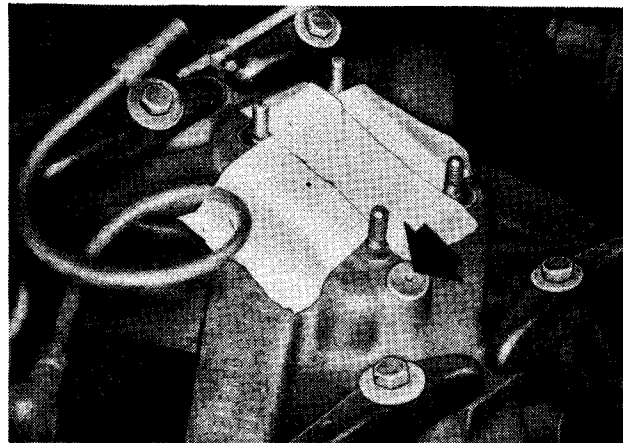

FIG. 3
4. Center punch the approximate center of the boss (see Fig. 3). Drill a 1/4" starting hole in the boss, then enlarge the hole using a 33/64" drill. NOTE.--Only a 33/64" drill should be used for enlarging or finishing this hole.